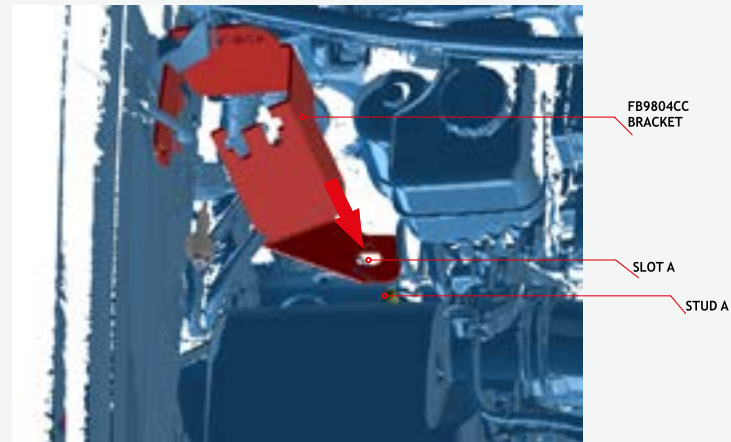

FIGURE 1B
- 3 Position the supplied FB9804CC Catch Can bracket into engine bay as shown in FIG. 1B with stud A in slot A.